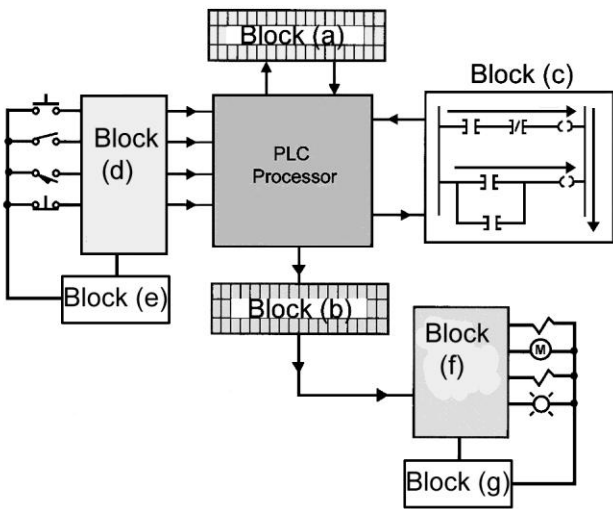

Figure 15-12 Block diagram for question 3.
3. For the Logix controller block diagram shown in Figure 15-12, block (a) is _____, block (b) is _____, block (c) is _____, block (d) is _____, block (e) is _____, block (f) is _____, and block (g) is _____.